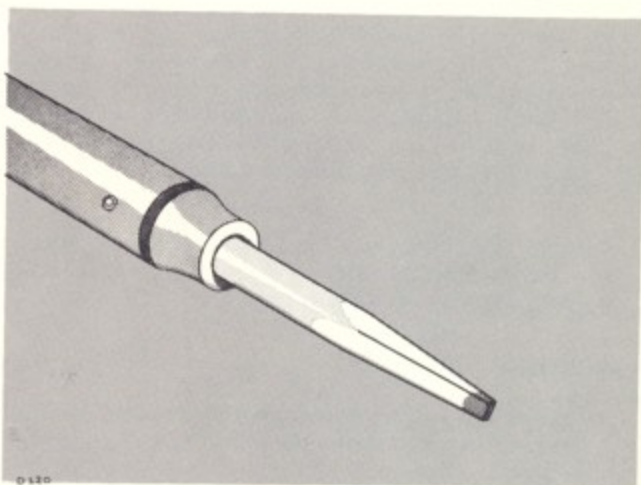

Fig. 5-1. Soldering iron tip correctly shaped and tinned.
from the strips. Fig. 5-1 will show you the correct shape for the tip of the soldering iron. Be sure to file smooth all surfaces of the iron which will be tinned. This prevents solder from building up on rough spots where it will quickly oxidize.
2. Prepare the tip of the iron as shown in Fig. 5-1.